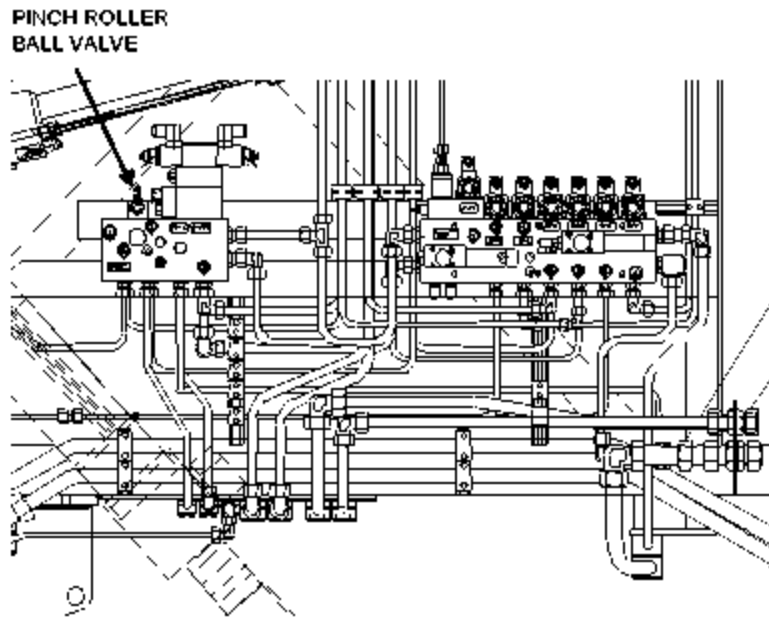

Figure 12. 13 Location of the Pinch Roller Ball Valve
- a. Below -20 degrees F (-29 degrees C), the TRANS CHECK and DO NOT SHIFT lights will illuminate and transmission will only operate in Neutral (N).
- b. 20 degrees F to +20 degrees F (-29 degrees C to -7 degrees C), the TRANS CHECK and DO NOT SHIFT lights will illuminate. When the DO NOT SHIFT light extinguishes, the transmission will operate in Neutral (N), Reverse (R) and First (1) ranges only.
- 12.5.1.10 Set the TRANSFER CASE shift lever (Figure 12. 7. (7)) to high (HI) and the transmission range selector lever (Figure 12. 7. (8)) to first gear and drive the launch vehicle three to five miles to warm the drive line components and tires.
- a. If not in build sequence, open the pinch roller ball valve (Figure 12. 13) on the launch frame and operate the A-frame fold cylinders to generate pressure in the launch vehicle system. This will heat the oil and circulate the oil through the pressure and tank lines.